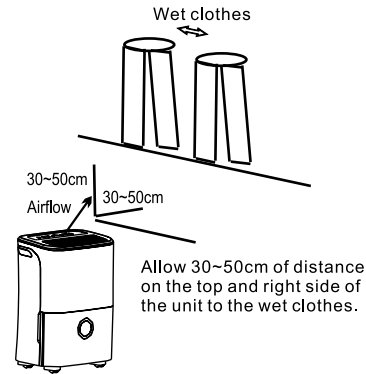

Fig. 5.
- Make sure to direct airflow at the wet clothes (See Fig. 5).